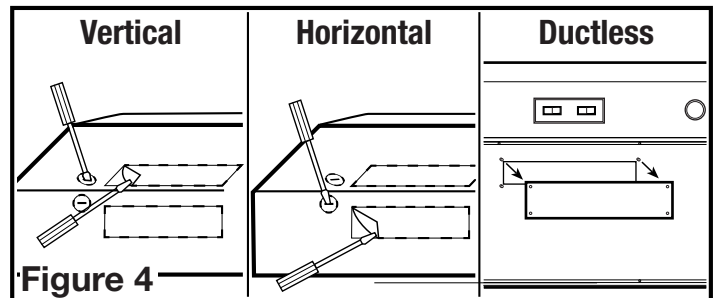

Figure 4
- 2a. **Horizontal or Vertical** - Remove the appropriate square knockout by inserting a screw driver under the edge and break the tabs holding it in place. Peel back with pliers (**Figure 4**).
- 2b. **Ductless** - Using a 3/8" nut driver or ratchet, remove & discard the 4 nuts holding the ductless block-off plate. This will expose the grill vents on top of the hood (**Figure 4**).
3. Determine where the electrical service will enter the hood and remove the appropriate electrical knockout by inserting a screw driver into the slot and rocking back and forth until the knockout comes loose (**Figure 4**).
NOTE: FOR DUCTLESS INSTALLATIONS ONLY, if you did not already do so in the earlier steps, remove the vent block-off plate from under the top of the hood (**Figure 4**).